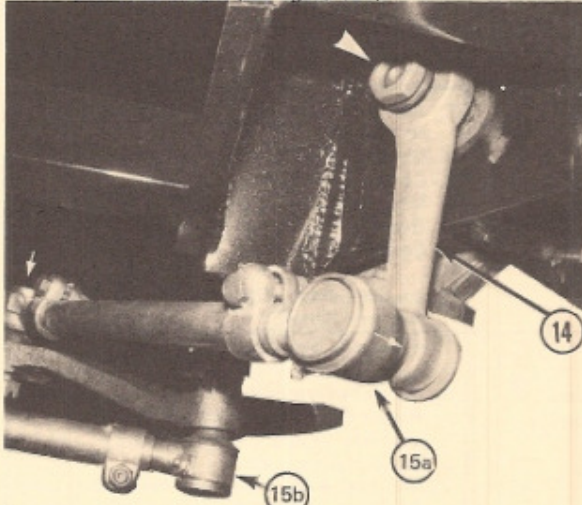

Figure 125 - Steering Gear Box
13. STEERING GEAR BOX: (See figure 125.)
- a. Install with four (4) bolts torqued down to 100 ft. lbs. each.